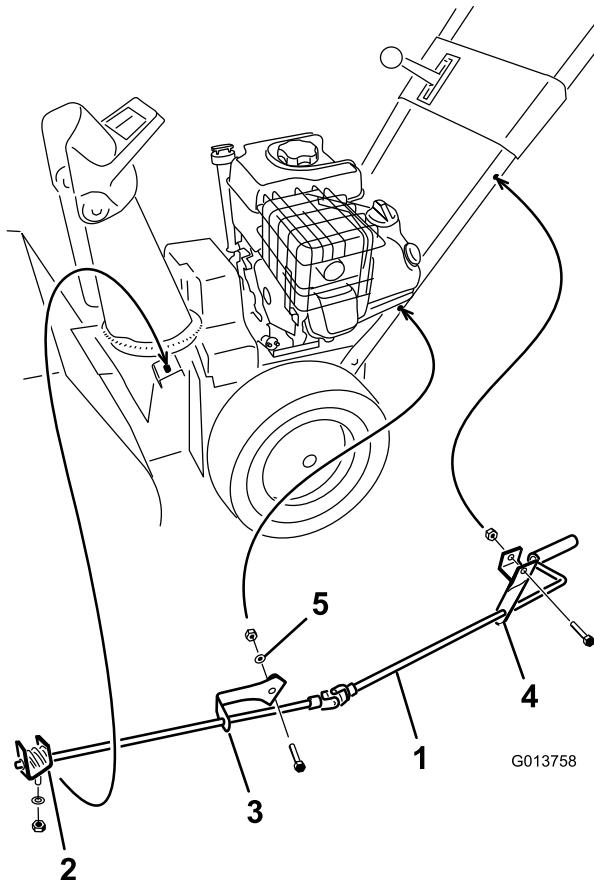

Figure 10
1. Secure the upper chute control bracket (attached to the chute control rod) to the upper left side of the handle with a bolt and a locknut Figure 10.
2. Secure the lower chute control bracket (attached to the chute control rod) to the lower left side of the handle with a bolt, a curved washer, a flatwasher, and a locknut (Figure 10).
6. Tighten the locknuts that secure the 2 chute control brackets (Figure 10).